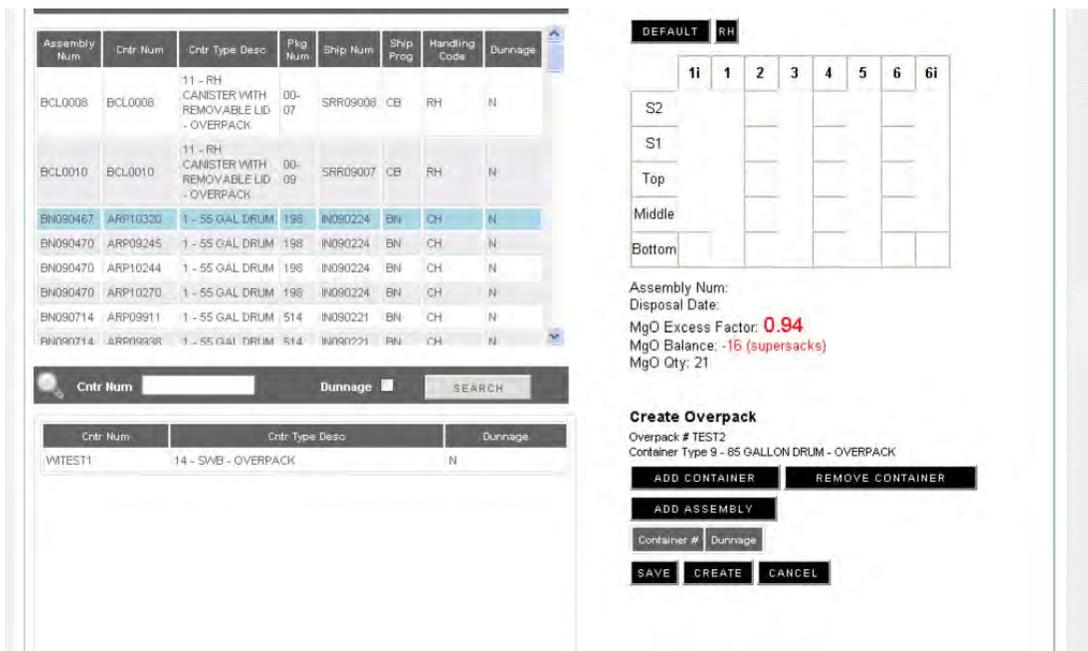

Figure 5 - 6 – Overpack Screen
H. Click on **Create** button as shown in Figure 5 - 6.